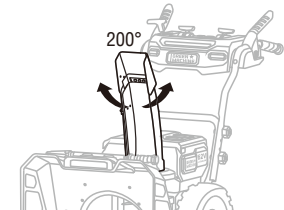

Fig. 9B
1. Press and hold the chute rotation button on the left from the view of the operator's position, the snow discharge guide turns to the left. (Fig.9B)
2. Press and hold the chute rotation button on the right from the view of the operator's position, the snow discharge guide turns to the right. (Fig.9B)